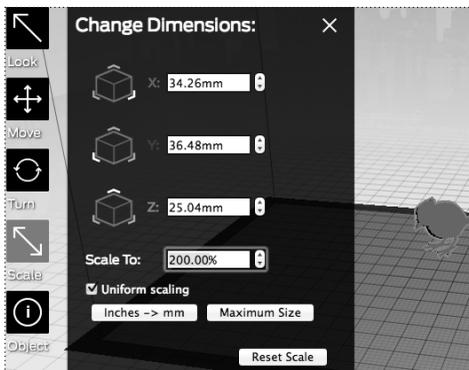

Fig. 10.11
8. Click the Scale button twice. In the Change Dimensions menu, edit the following settings [Fig 10.11]: